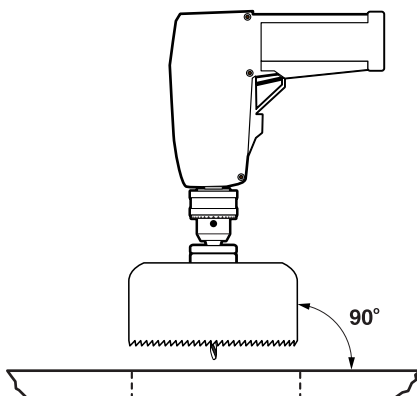

Figure 7. Cutting the Opening with a Hole Saw
2. Using a 6 hole saw on a portable drill, cut the mounting hole at the desired location (see figure 7 on the next page). Extron is not responsible for improperly positioned HSA products.